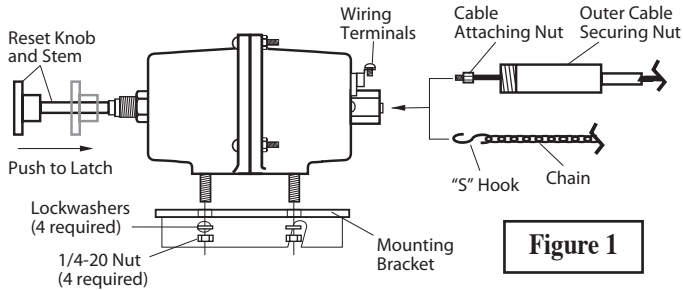

Figure 1
1. Mount the RP75 using the 40-05-0161 mounting bracket or similar (see **Figure 1**). If installing the RP75 to an engine compartment firewall, go to Step 2.
1. To install the control linkage (cable or chain), apply voltage to the RP75. Push in the reset knob. If installing the cable, insert the *cable attaching nut* into the RP75 and tighten snugly (see **Figure 1**). **DO NOT OVERTIGHTEN** or threads may strip. Attach and tighten outer cable securing nut. If installing the chain, attach the "S" hook to the RP75 (see **Figure 1**).